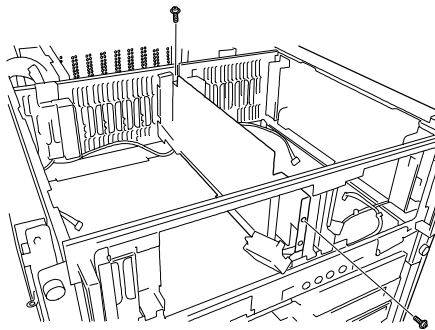

Figure 4-22. Installing the CPU box Support
- 12.** Attach the CPU box support into the two holes in the center CPU box rail, then secure it with two screws removed in the previous steps, see Figure 4-22.